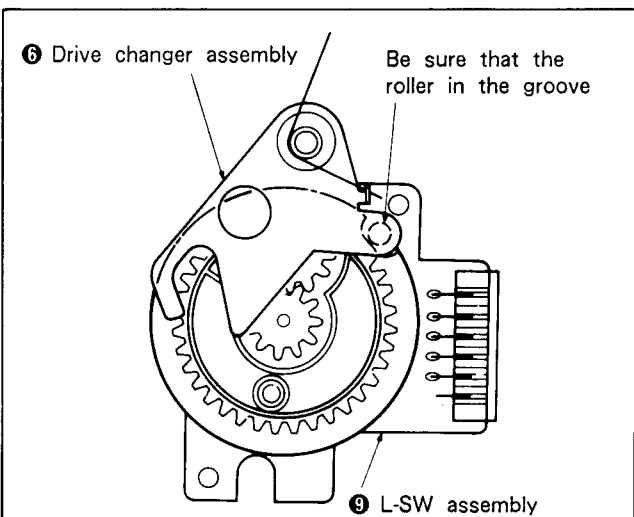

Fig. 7-35.
- 12) Operate the mode selector and set to the position in Fig. 7-35.